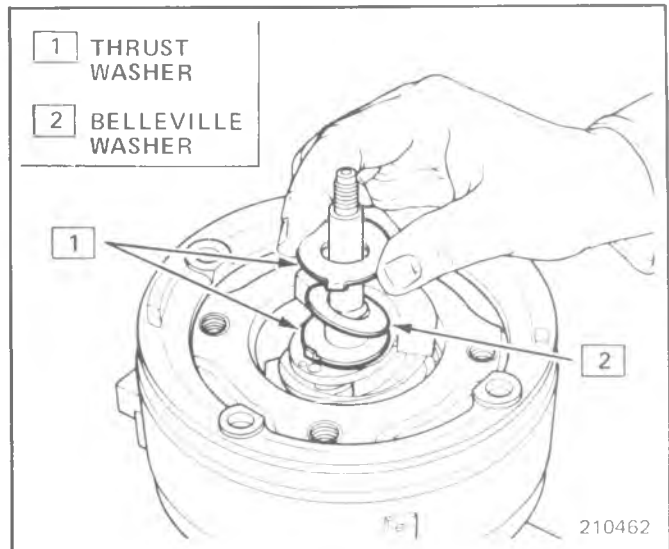

Fig. 1C1-37 Replacing Thrust and Belleville Washers
- Dip the new front head O-ring in clean 525 viscosity refrigerant oil and install in the seal groove on the front head (Fig. 1C1-36).